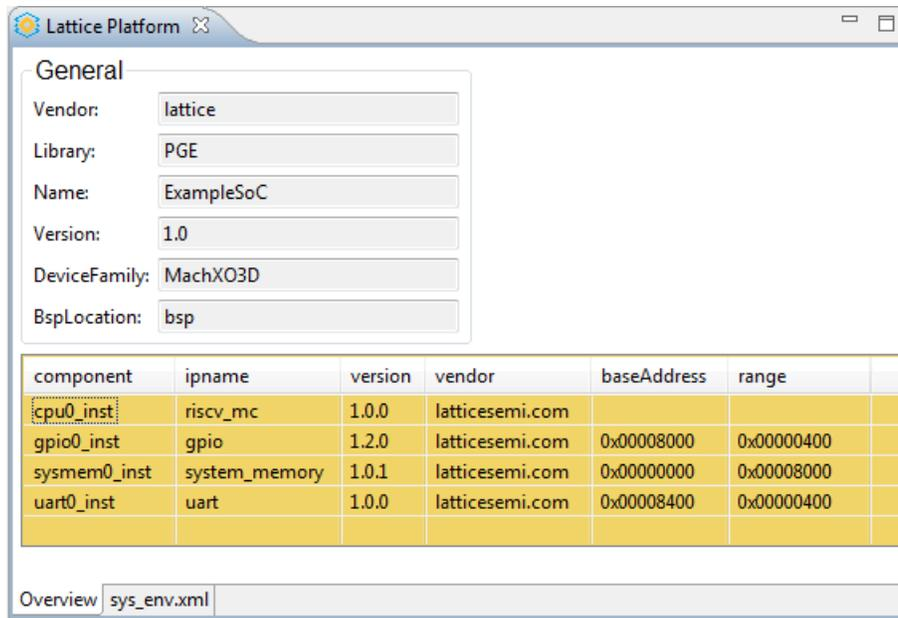

Figure 3.17. Lattice System Platform
- Lattice System Platform: An overview of the processor platform can be displayed (Figure 3.17).